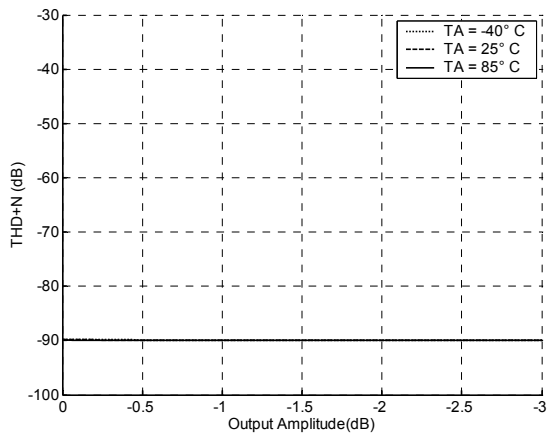
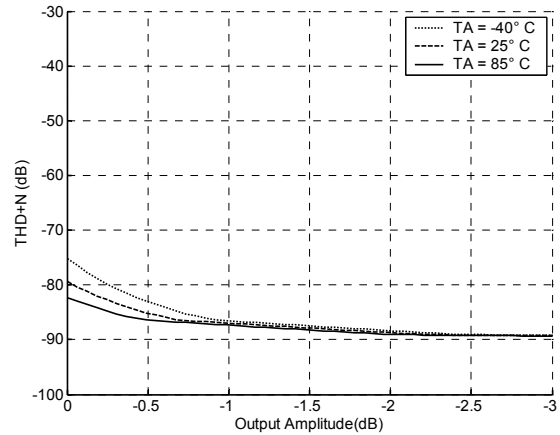
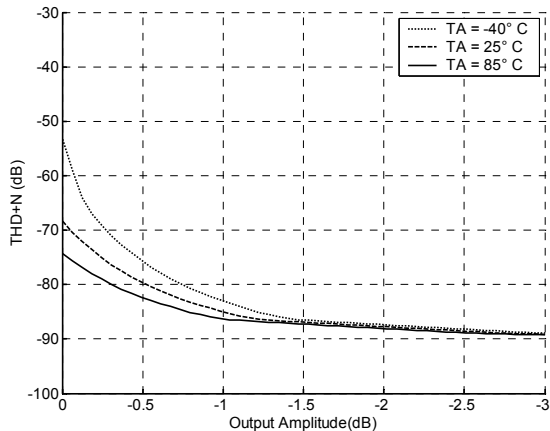

Figure 3. THD+N vs Output Amplitude for  $V_A = 5.0\text{ V}$
Figure 4. THD+N vs Output Amplitude for  $V_A = 3.3\text{ V}$
Figure 5. THD+N vs Output Amplitude for  $V_A = 3.14\text{ V}$
**Notes:** 3. One-half LSB of triangular PDF dither is added to data. See Figure 3, Figure 4, and Figure 5 for details on THD+N performance.
Figures 3 through 5 show typical THD+N performance for CS4349 devices that exhibit the maximum full scale output voltages as specified in the DAC Analog Characteristics tables (see page 9 and 10). With decreasing  $V_A$ , THD+N performance is increasingly affected by the full scale output voltage and temperature, with higher full scale output voltage and lower temperatures corresponding to lower THD+N performance.